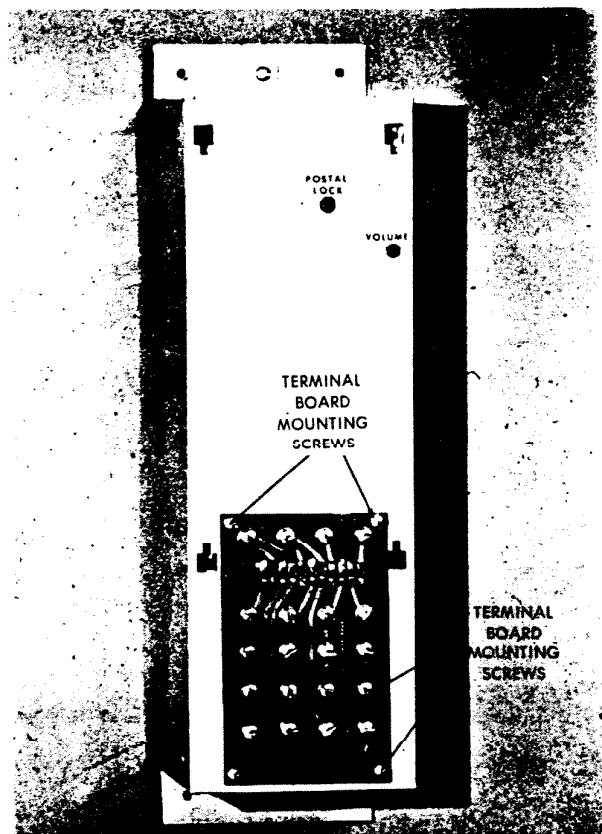

Fig. 4
- (3) Remove the 4 sheet metal screws holding the terminal board on the Control/Amplifier. See Figure 4.
- (4) Unplug terminal board (with system wiring connected) from Control-Amplifier and set aside. Remove the two sheet metal screws holding amplifier to Directory "A" housing and remove Control- Amplifier.